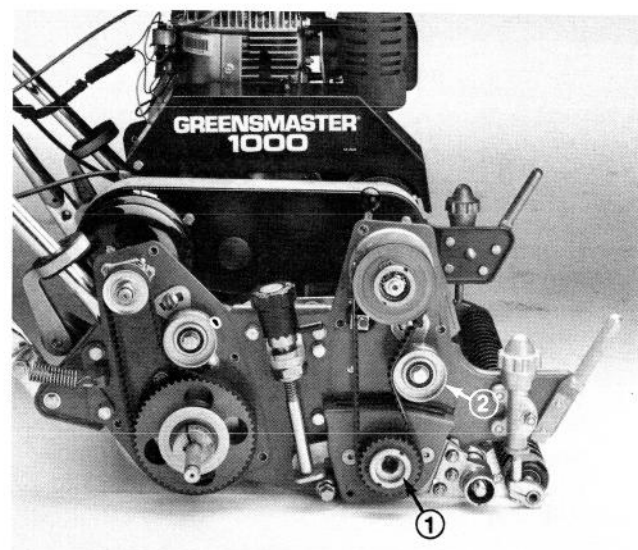

Figure 13
20. Using a 1/2" drive ratchet and extension, reinstall drive pulley and belt to reel shaft (Fig. 13). Secure the reel from turning with a wood block. Tighten pulley to 40 to 60 ft-lbs of torque. Pivot the idler pulley against the backside of the belt and apply 20 to 25 lbs of force to the idler pulley. Tighten idler pulley mounting screws. **DO NOT OVERTIGHTEN BELT.**
3. Remove the right side grooming reel housing bearing bracket by unfastening the three bolts and nuts (Fig. 13). Remove the grooming reel shaft.